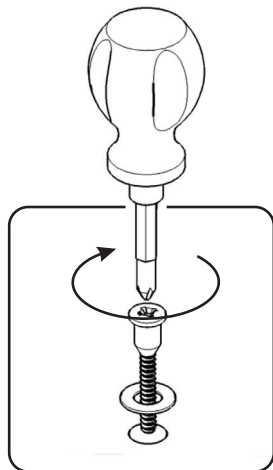

Figure 3
Attach Base (I) to unit with Washers, Long Screws and Cam Locks. (See Figure 3)